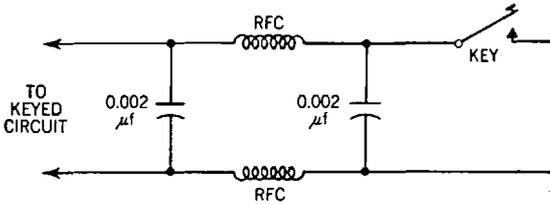

Fig. 41-15. A filter used to eliminate key clicks.
*Key clicks* occur because of sudden surges of high-frequency electrical energy that may accompany the opening and closing of the key. There are numerous ways of eliminating them. Figure 41-15 shows one method. Since these surges are of radio frequency, the filter circuit shown above will filter them out.